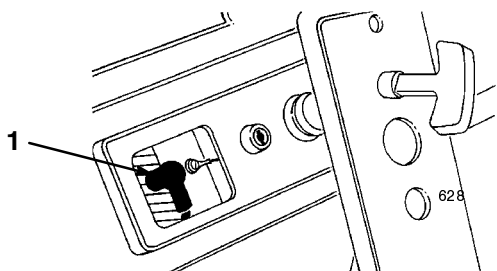

Figure 17
5. Disconnect the wire from the spark plug (Fig. 17).
3. Disconnect the wire from the spark plug and remove the spark plug (Fig. 17).